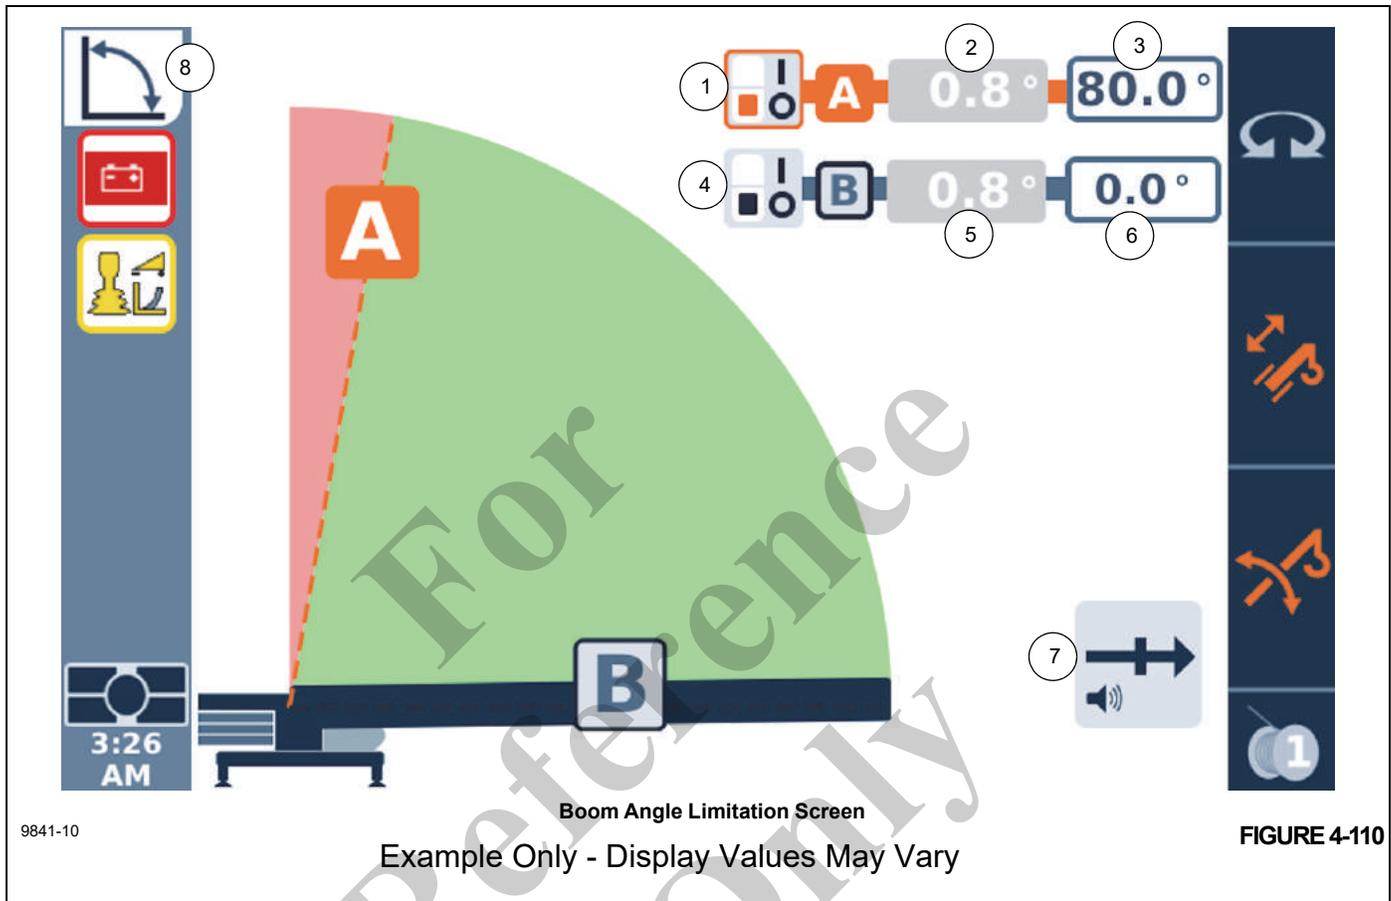

FIGURE 4-110
If the Boom Angle Limitation Menu is selected from the Main Menu of WRL Limitations (3, Figure 4-108), then the Boom Angle Limitation Screen will be shown (Figure 4-110).
Using the Left Arrow and Right Arrow Function keys on the Navigation Control Pad (4, Figure 4-62) or the Jog Dial (5, Figure 4-63) changes the Icon highlighted on the screen. As the arrow keys are pressed, the highlight will move between the Icons, with the color orange typically meaning that the Icon is selected and can be affected by subsequent actions. In Figure 4-110, you will see that the highlighted Icon in orange for the Enable/Disable Switch Symbol for the maximum boom angle is selected since it has the orange color highlighting. Table 4-9 lists the WRL Limitation Screen Symbols.
3. Select the Boom Angle Limitation Menu Screen (3, Figure 4-108). **NOTE:** The Boom Up Limitation Screen (8, Figure 4-110) Icon is shown on the top left side of the ODM screen.
4. Move the Boom to the desired position. This position will indicate the boom angle current value A (2) position.
5. Enable the Limitation by using the Jog Dial (5, Figure 4-63), or the Arrow Keys (4, Figure 4-62) to move and select the Enable/Disable Switch Symbol ON/Off (1, Figure 4-110). **NOTE:** The Switch (1, Figure 4-110) is a toggle switch. Click OK (5, Figure 4-62), or the Jog Dial (5, Figure 4-63) to enable the switch.
6. Use the Jog Dial (5, Figure 4-63) or the Arrow Keys (4, Figure 4-62) and move to the Limitation Value (2, Figure 4-110). Click OK to set the current value Limitation A (2, Figure 4-110) position.
**NOTE:** The current value in Limitation A (2) will automatically populate in the value for Limitation A (3).
Icon (8, Figure 4-110) is shown on the top left side of the ODM screen.
4. Move the Boom to the desired position. This position will indicate the boom angle current value B (5) position.
5. Enable the Lower Boom Limitation Angle by using the Jog Dial (5, Figure 4-63), or the Arrow Keys (4, Figure 4-62) to move and select the Enable/Disable Switch Symbol ON/Off (4, Figure 4-110). **NOTE:** The Switch (4, Figure 4-110) is a toggle switch. Click OK (5, Figure 4-62), or the Jog Dial (5, Figure 4-63) to enable the switch.
6. Use the Jog Dial (5, Figure 4-63), or the Arrow Keys (4, Figure 4-62) and move to the Limitation Value (5, Figure 4-110). Click OK to set the current value Lower Boom Angle Limitation B (5, Figure 4-110) position.
**NOTE:** The current lower boom angle Limitation B (5) will automatically populate in the value for Limitation B (6).
3. Select the Boom Angle Limitation Menu Screen (3, Figure 4-108). **NOTE:** The Boom Angle Limitation Icon (8, Figure 4-110) is shown on the top left side of the ODM screen.
4. Enable the limitation by using the Jog Dial (5, Figure 4-63) or the Arrow Keys (4, Figure 4-62) and move to the Enable/Disable Switch (1, Figure 4-110). **NOTE:** The Switch (1, Figure 4-110) is the Enable/Disable Switch and is a toggle switch. Click OK (5, Figure 4-62), or the Jog Dial (5, Figure 4-63) to set the switch.
5. Use the Jog Dial (5, Figure 4-63), or the Right Arrow Key (4, Figure 4-62) to move and select the Maximum Boom Angle (3, Figure 4-110), Limitation A. Enable the value entry by clicking on OK (5, Figure 4-62). Enter a value by using the Jog Dial (5, Figure 4-63) or the upper and lower arrow keys (4, Figure 4-62) to change the value (in
tenths) to the desired boom angle value (3, Figure 4-110).
4. Enable the limitation by using the Jog Dial (5, Figure 4-63) or the Arrow Keys (4, Figure 4-62) and move to the Enable/Disable Switch (4, Figure 4-110). **NOTE:** The Switch (4, Figure 4-110) is the Enable/Disable Switch and is a toggle switch. Click OK
5. Use the Jog Dial (5, Figure 4-63), or the Right Arrow Key (4, Figure 4-62) to move and select the Minimum Boom Angle Symbol (6, Figure 4-110), Limitation B. Enable the value entry by clicking on OK (5, Figure 4-62). Enter a value by using the Jog Dial (5, Figure 4-63) or the upper and lower arrow keys (4, Figure 4-62) to change the value (in tenths) to the desired boom angle value (6, Figure 4-110).
2. Use the Left Arrow and/or Right Arrow Function keys (4), (Figure 4-62) to highlight the Switch Enable/Disable Symbol (1, 4, Figure 4-110). Enable is “I” and Disable is “O”.